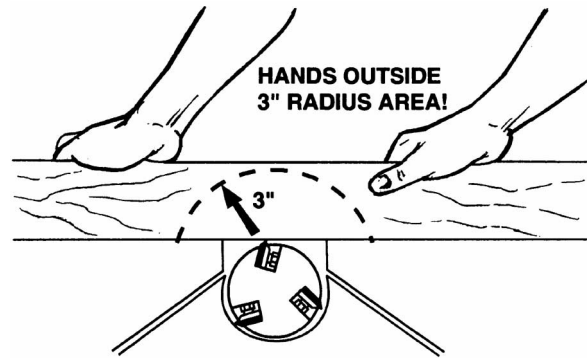

Figure 1
30. When working a piece of wood on the jointer, follow the 3-inch radius rule: The hands must never be closer than 3 inches to the cutterhead. See Figure 1.